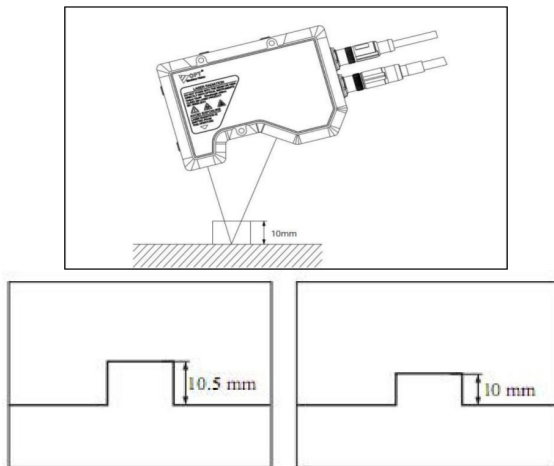

Figure 3.4.4 Height Correction Demonstration Diagram
- Height Correction: Corrects height errors in the Z-axis direction caused by tilting of the sensor head setup, the object, or the object placement platform. The measured profile is corrected based on the obtained correction coefficients, as shown in Figure 3.4.4.